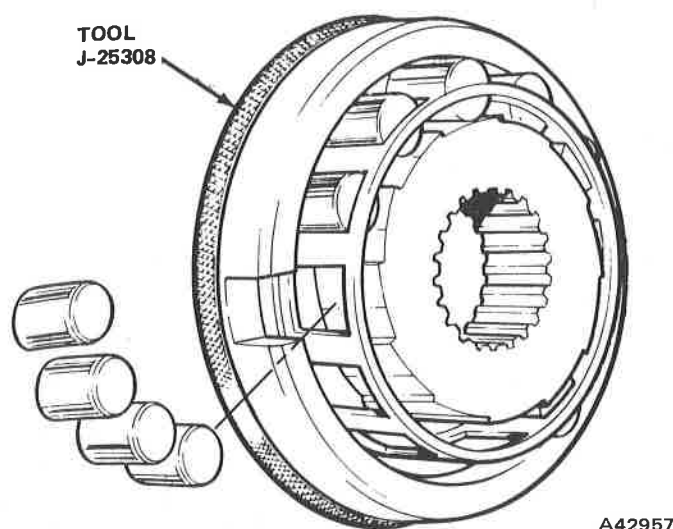

Fig. 6-53 Roller Installation
(9) Place assembled cage and hub into overrunning clutch Installer Tool J-25308 with open end of cage facing out (fig. 6-53).
(a) Feed clutch rollers into cage slots through gate in Tool J-25308 (fig. 6-53). Turn cage in clockwise direction when installing rollers.